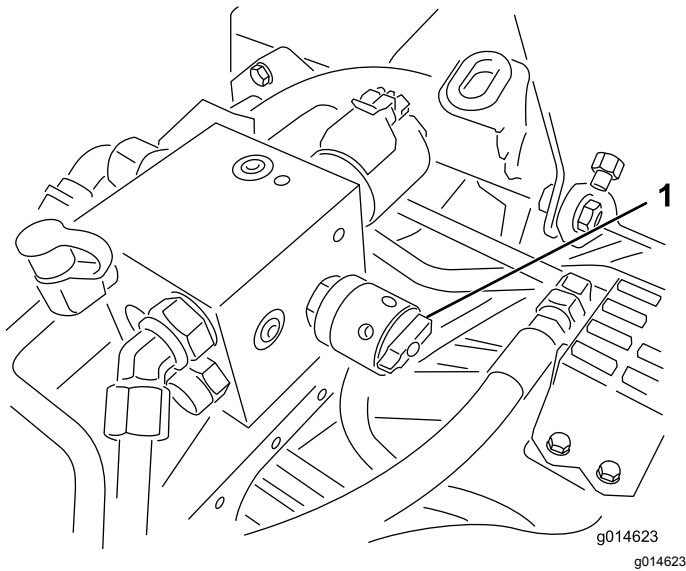

Figure 56
6. Rotate the reel speed control to setting 1 (Figure 56).